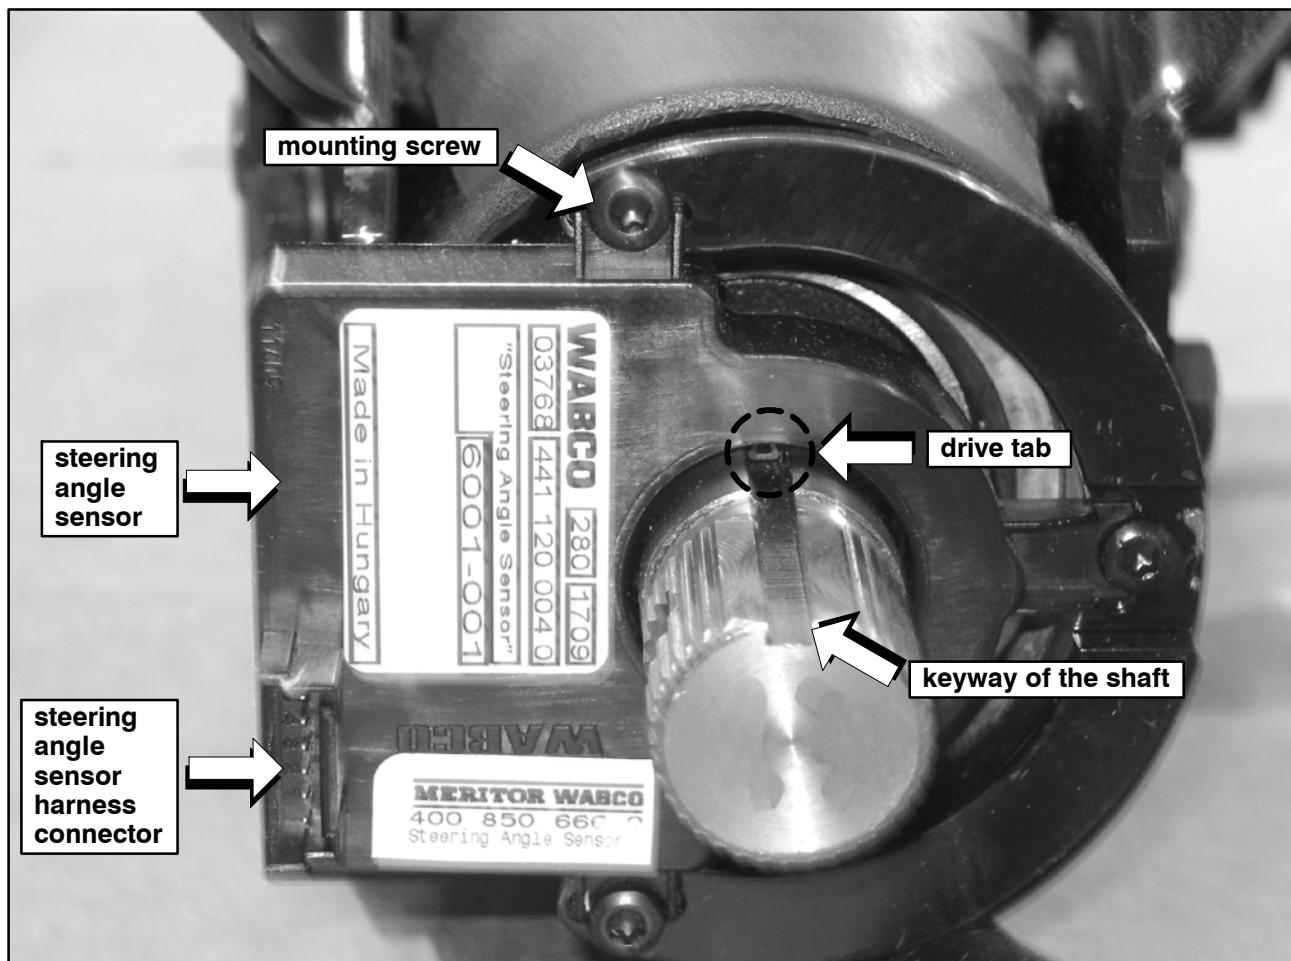

Figure 6.
6. Locate and note the orientation of the steering angle sensor wiring harness connector (refer to Figure 6). Carefully disconnect the steering angle sensor harness.
10. Remove and discard the three (3) steering angle sensor mounting screws (refer to Figure 6).
11. Remove and retain the existing steering angle sensor (refer to Figure 6), to be returned to MCI.
12. Apply the supplied lubricant to the mating surface of the new steering angle sensor drive tab and the keyway of the shaft (refer to Figure 6).